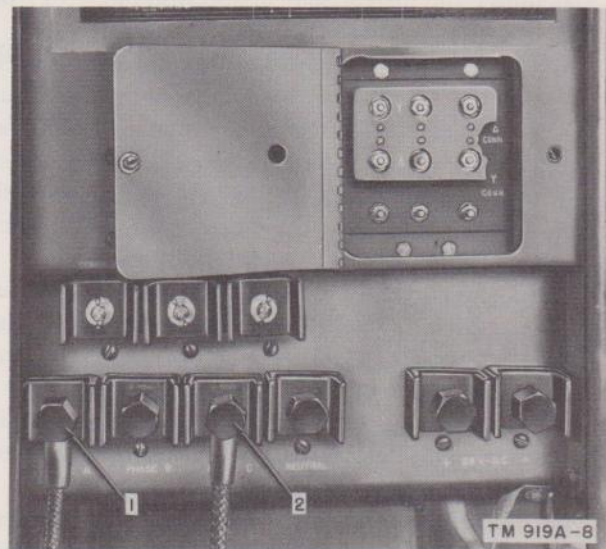

Figure 8. Single phase, 120 volt connections (Delta).
*a. Ac Output Connections.* The wye-delta change board and the output terminals are located on the right side of the unit. Open the change board door to check the ac output rating in which the generator set is connected. The symbol of the rated load will be either Y (wye) or  $\Delta$  (delta). To change the voltage connections, remove the six nuts and washers that secure the jumper board to the terminal board. For 120-volt, single-phase, 10-kw operation, connect the jumper board in the delta position (fig. 8). Connect cables from the load to output terminals marked PHASE A (1, fig. 8) and PHASE C (2). Use #0 AWG (American Wire Gauge) cable. For 120/208-volt, three-phase, 12.5-kw operation, connect the jumper board in the wye position (fig. 9). Connect cables from the load to output terminals marked PHASE A (1, fig. 9), PHASE B (2), PHASE C (3), and NEUTRAL (if required). Use #4 AWG cable. Figures 8 and 9 show the proper delta and wye connections.